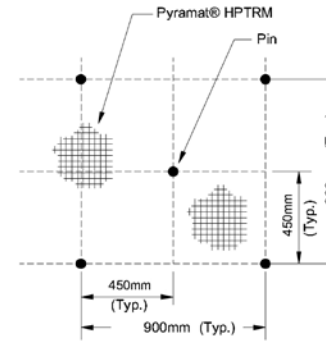

FIGURE 6: PIN PATTERN DETAIL
- Secure mat using suggested ground pinning devices and earth percussion anchors for appropriate frequency and pattern shown on the Anchor/Pin Pattern Detail (see Figure 4) and Pin/Pattern Detail (see Figure 6)